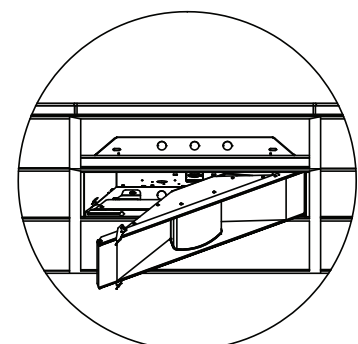

Fig. 6
7. Secure the door assembly body by lock the latches riveted on each end of the assembled door frame. (Fig.6)